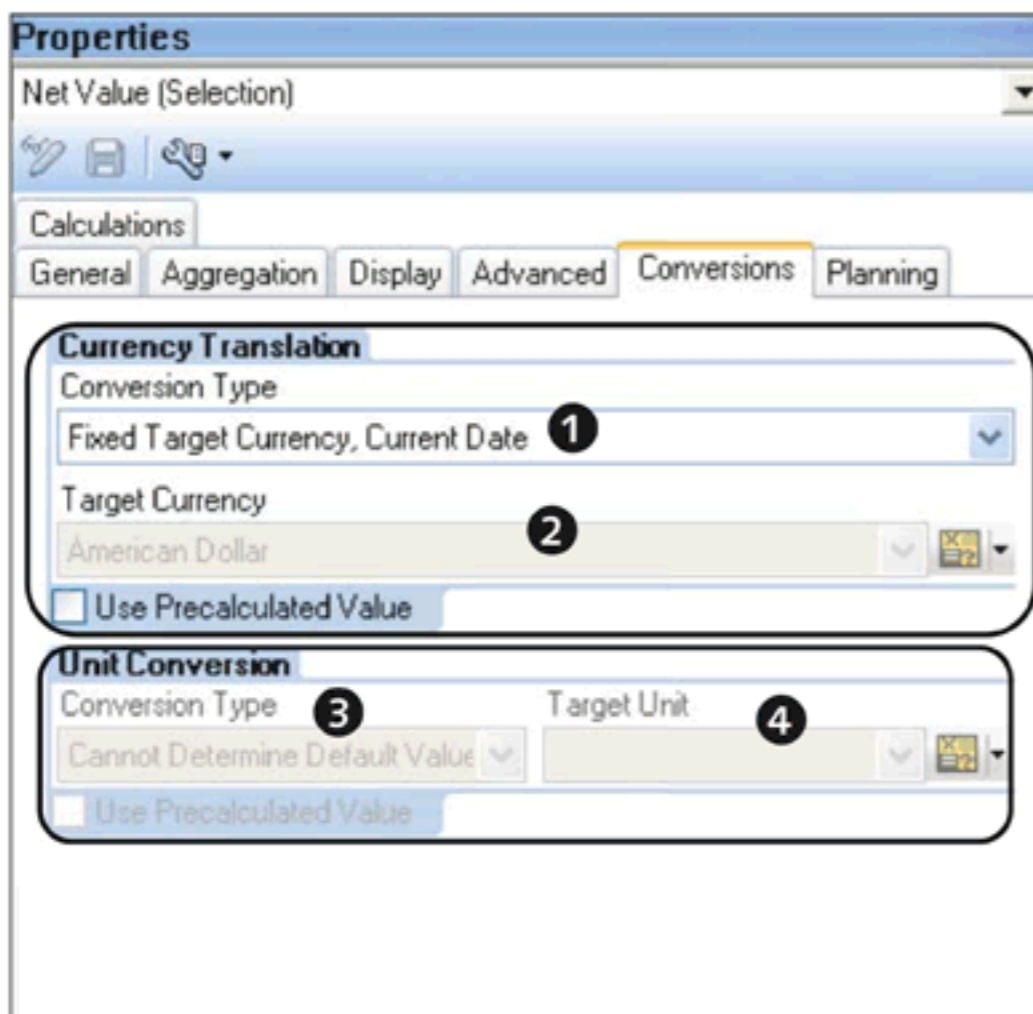

Figure 9.75 Key Figure Properties: Conversions
The settings on the CONVERSIONS tab (see Figure 9.75) are useful if there is an amount or quantity key figure included in the query element definition, and you need to convert the amount or quantity in a uniform currency or unit.
The CURRENCY TRANSLATION section of this tab is available for amount key figures. Here, you can define the way the amount needs to be converted by specifying the CONVERSION TYPE (❶ of Figure 9.75) and the TARGET CURRENCY to which the key figure value is translated (❷).